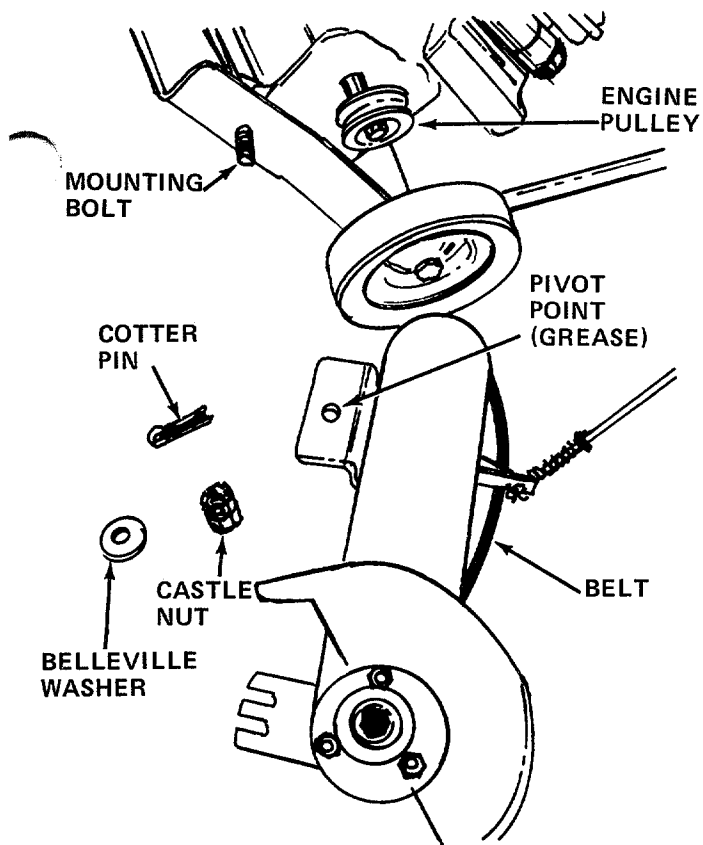

FIGURE 15
3. Lift off the hex castle nut, belleville washer and belt cover. See figure 15.
While the belt cover is removed, it is a good idea to apply a little grease to the pivot point on belt cover. See figure 15.
6. When tightening the castle nut, only tighten enough to line up hole in bolt for cotter pin. **DO NOT OVER TIGHTEN.** Belt cover must pivot freely. See figure 15.